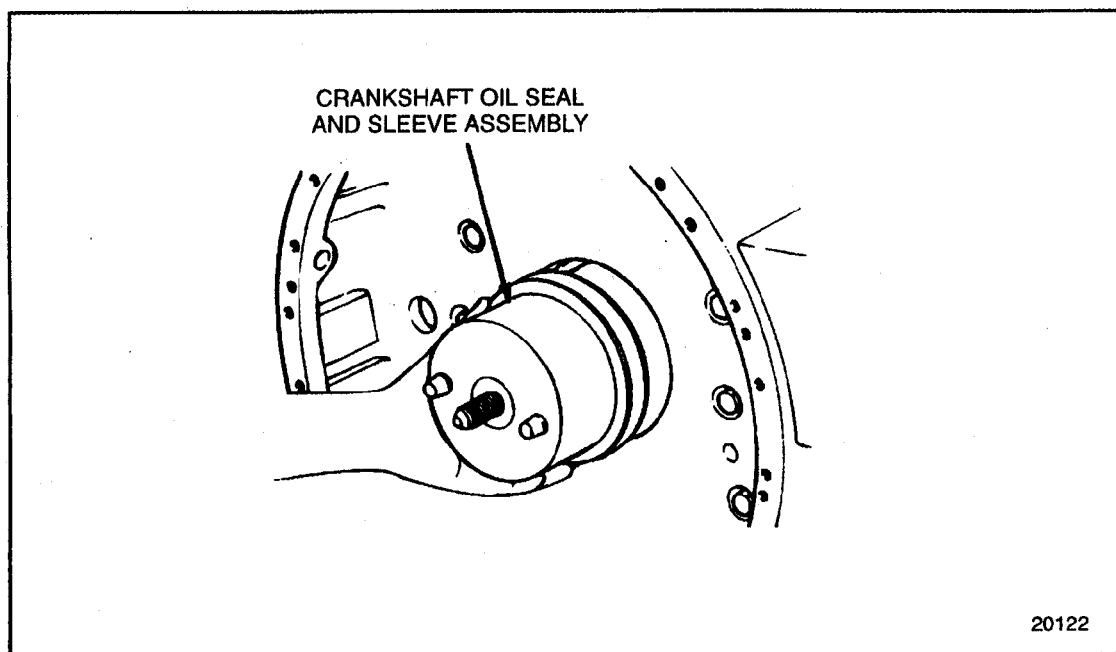

Figure 1-138 Rear Oil Seal and Sleeve Installation
3. Install the rear housing and adapter ring with seal and sleeve assembly in place on the guide studs. See Figure 1-138.